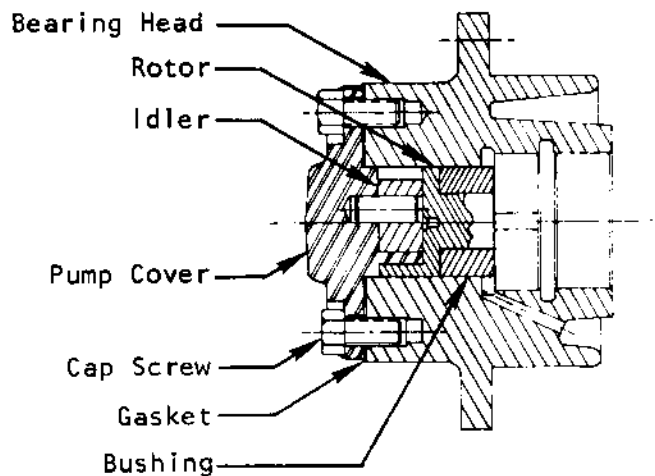

FIGURE 3
1. Remove oil pump cover, pump cover gasket, oil pump idler and oil pump rotor (Figure 3).